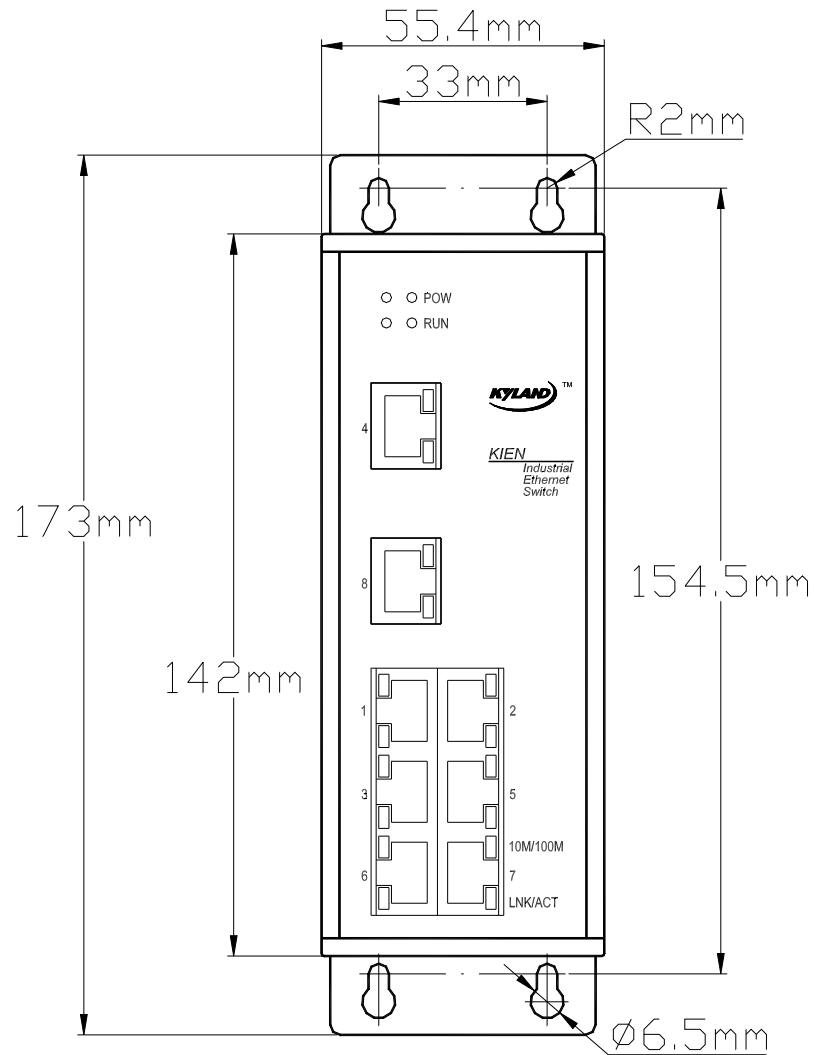

Figure 4-3 Size of Wall Hanging Mounting for KIEN1000 and KIEN2000
In case that DIN rail-type mounting is inconvenient, it is better to adopt wall mounting. KYLAND Telecom provides users with wall mounting boards that are mounting parts for mounting of KIEN1000 and KIEN2000 serial industrial Ethernet switches. The size of wall mounting is showed in the Figure 4-3.
- 3 . Select a vertical wall or internal wall of the switch cabinet as the mounting position. If the vertical wall is selected, recommend to mount the switch with $\Phi 6$ plastic expansion bolts and $\Phi 3$ tapping screws. In accordance with the mounting size in the Figure 4-3, drill 4 $\Phi 6$ holes on the wall with a impact electric drill
with a depth that can completely contains the $\Phi 6$ plastic expansion bolts. Insert the plastic expansion bolts into holes on the wall and screw the tapping screws into the plastic expansion bolts with a cross head screwdriver. But do not screw them tightly and keep a space of about 5mm. If the internal wall of the switch cabinet is selected, recommend to open 4 M3 screw holes when the switch cabinet is manufactured in accordance with the mounting size in the Figure 4-3. Or drill 4 $\Phi 4$ holes with a electric portable drill on site. Screw four M3 \times 10 cross recessed pan head screws into 4 holes. If the holes have no threads, mount four M3 nuts on its back. At last, do not completely screw down screws and keep a space of 5mm.